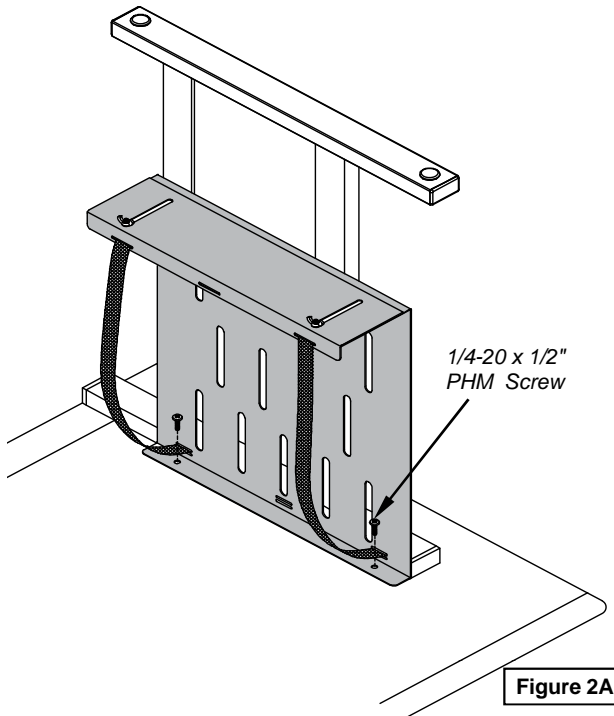
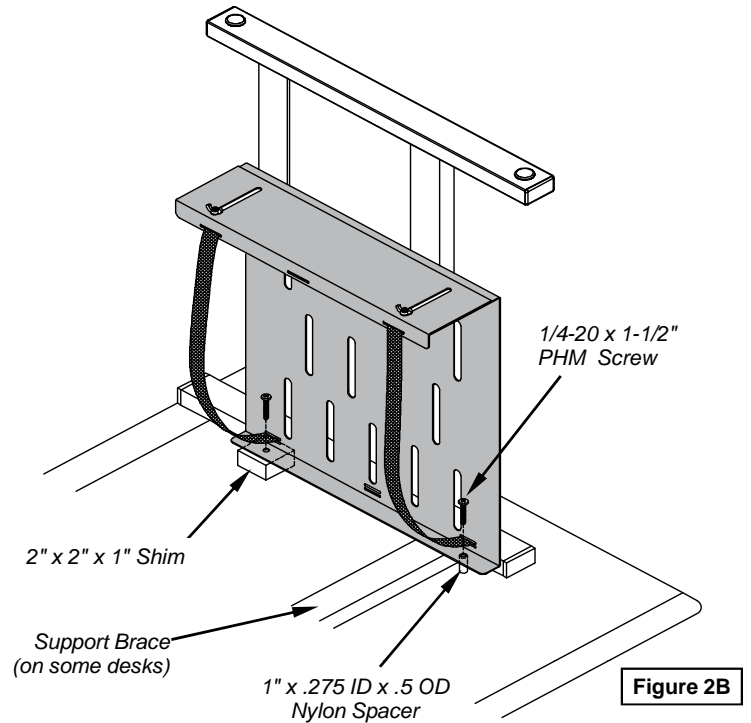
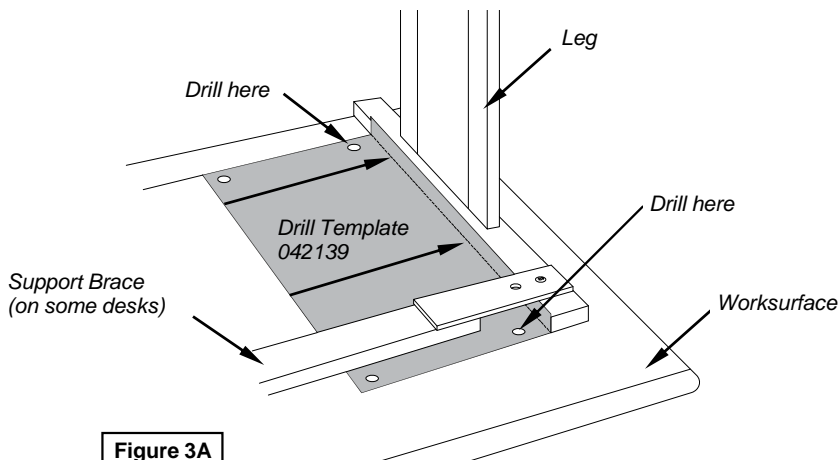
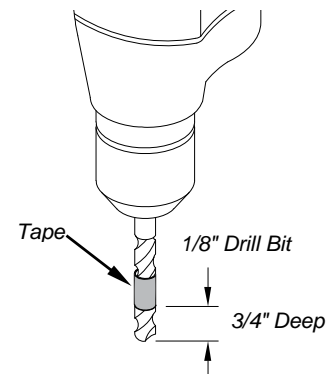

Figure 2A
Figure 2B
Figure 3A
Figure 3B
- Determine whether the CPU Sling will mount on the right or left side of the desk and align the top sling holes with the appropriate set of inserts. **Figure 2A** shows a sling being mounted on the left side of a desk.
**Note:** Desks without support brace (Figure 2A) use two 1/4-20 x 1/2" PHM Screws (026017.) For desks with Support Brace (Figure 2B), use one Nylon Spacer (044890) in the front hole, and one 2" x 2" x 1" Shim (010093) in the back hole with the longer 1/4-20 x 1-1/2" PHM Screws (026547.) The front of the sling will extend past the Support Brace.
- Fold and tape the enclosed Drill Template (042139) to the underside of the worksurface in the position shown in **Figure 3A**. Wrap a piece of tape around a 1/8" drill bit to mark 3/4" from the end of the bit-**Figure 3B**. Drill through the Template on the two marked holes closest to the Leg, 3/4" deep. **Figure 3A**.
- Attach CPU sling to worksurface using (2) #10 Sheet Metal Screws.
**Note:** Desks without inserts or Support Brace use two #10 x 3/4" PHSM Screws (026057.) Desks without inserts that include a Support Brace as in Figure 3A, use one Nylon Spacer (044890) in the front hole, and one 2" x 2" x 1" Shim (010093) in the rear hole using the longer #10 x 1-3/4" PHSM Screws (021605.) The front of the CPU Sling will extend past the Support Brace (See Figure 2B for reference.)